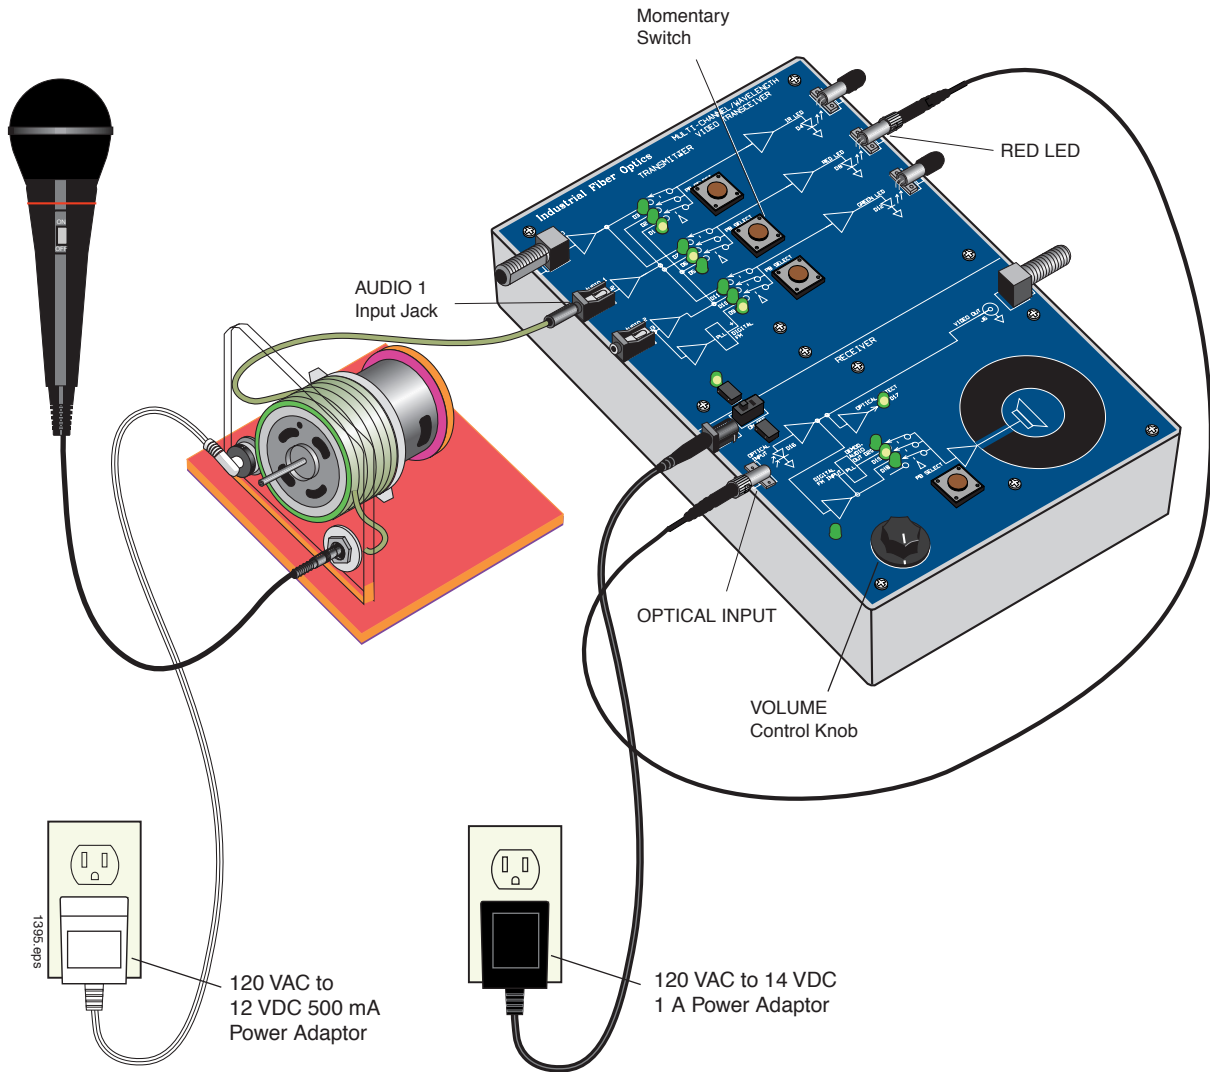

Figure 8. Equipment set-up to demonstrate the effects of EMI on communications systems
2. Your equipment set-up in this experiment is shown in Figure 8. You may wish to refer to this figure as you complete the following steps.
4. Plug the microphone into the jack on the motor as shown in Figure 8. Insert the plug on the cable end from the motor into the AUDIO 1 jack on the Transceiver.
8. Press the middle momentary switch shown in Figure 8 until the LED labeled D6 is lit.